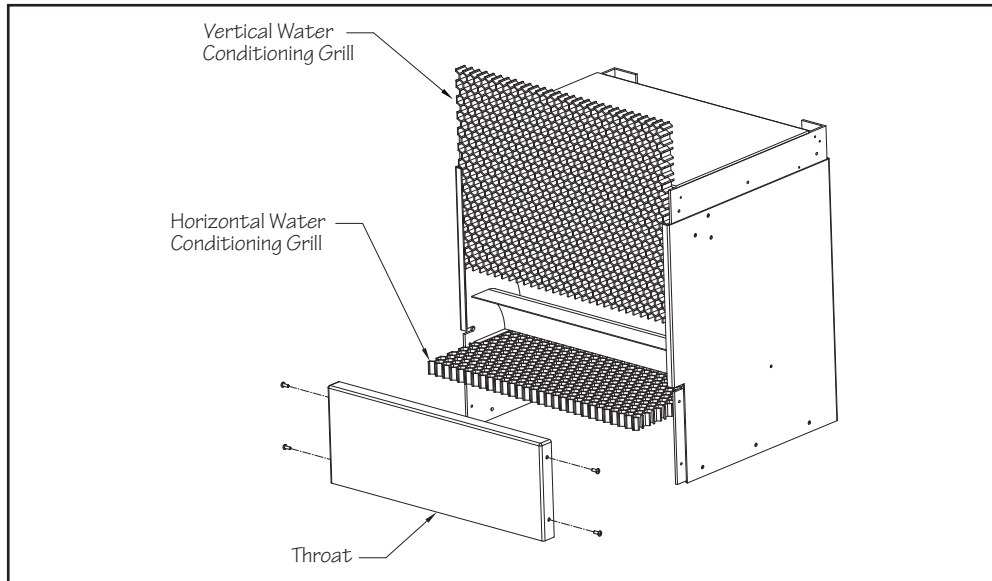

Fig. 6.3
- 6.4 Remove the throat from the upper housing. There are two screws on each side of the throat. Pull the throat off of the housing and set it aside. Pull the vertical water-conditioning grill up and out of the housing. Pull the horizontal grill out of its track and remove from the housing. Make sure to remove and discard the wood 2x4 spacer from the bottom of the housing before proceeding (Fig 6.3).